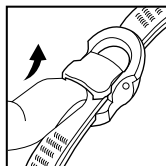
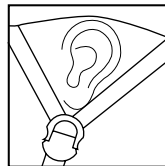

Figure 2
Figure 3
1. Open the Cam-Lock adjusters (Figure 2). Put the helmet on and slide the straps through the adjusters until they are located in the correct position as indicated in Figure 3.
The front and rear straps should join at a point slightly below and in front of (but not covering) the ears (Figure 3).